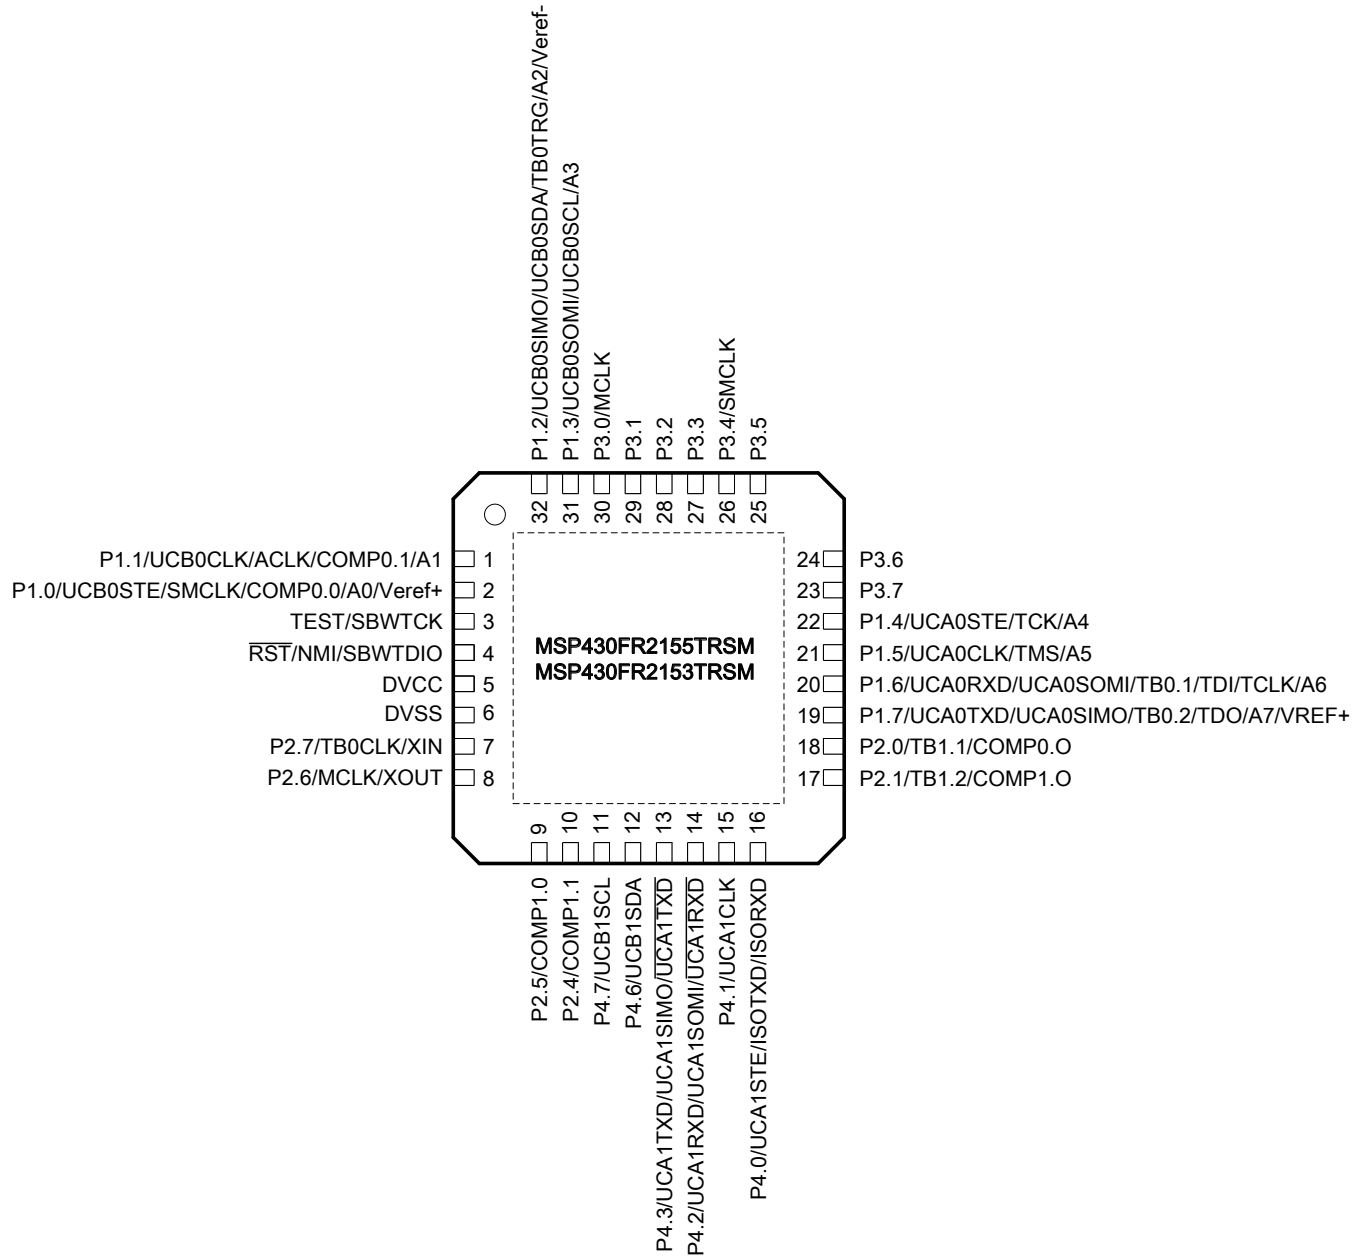

图 4-8. 32-Pin RSM (VQFN) (Top View) – MSP430FR215x
• Added 图 4-8, 32-Pin RSM (VQFN) (Top View) – MSP430FR215x .....	15
图 4-8 shows the pinout of the 32-pin RSM package for the MSP430FR215x MCUs.